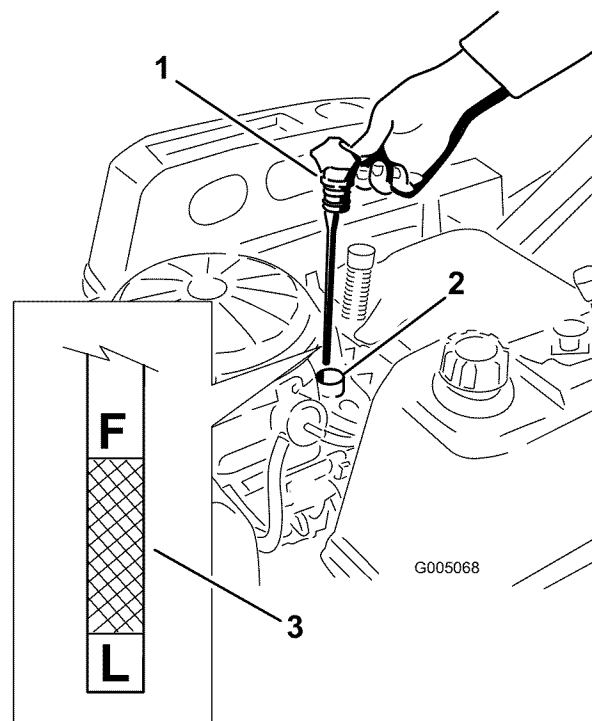

Figure 25
- Remove the dipstick and check the oil level. (Figure 25).
- Pull and remove the oil fill cap/dipstick; wipe oil off. Reinsert the dipstick and push firmly into place (Figure 25).
8. Open the oil drain valve to allow oil to drain (Figure 27). Remove the oil fill cap/dipstick (Figure 25).
15. Slowly pour approximately 80% of the specified oil into the filler tube (Figure 25).
16. Install the oil fill cap/dipstick and push firmly into place (Figure 25).
17. Check the oil level (Figure 25); refer to Checking the Oil Level.
19. Install the oil fill cap/dipstick and push firmly into place (Figure 25).